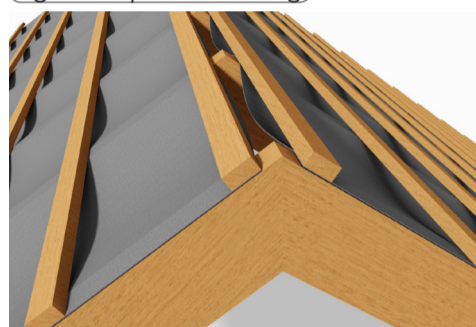

fig 6: Ridge ventilation
6. Where ridge ventilation is not being provided, the Danelaw LR120TT should extend over the ridge and overlap the underlay on the opposite side of the roof by the required amount. When being used in conjunction with ridge ventilation, the underlay should be cut or terminated and secured to ensure that the ventilation path remains clear along the length of the ridge (fig. 6).